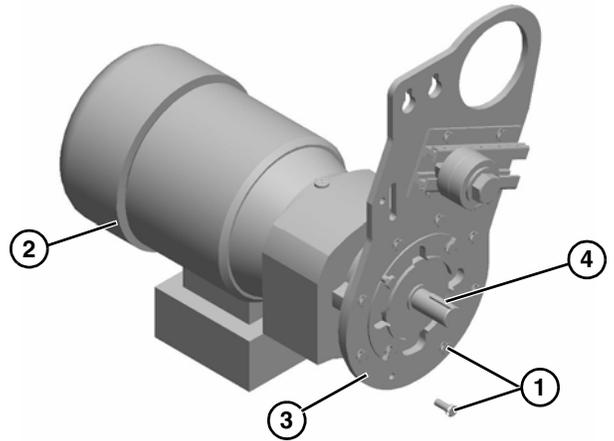

Figure 20
6. Remove eight (8) bolts (**Figure 20, item 1**). Detach motor (**Figure 20, item 2**) from the mounting plate (**Figure 20, item 3**). Retain motor output shaft key (**Figure 20, item 4**).